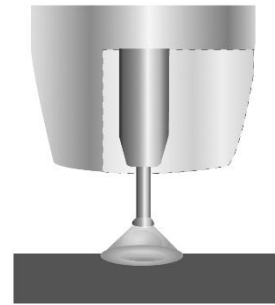

Fig. 17
5. An arc is created at the separation of the droplet and the heat and force of the arc flattens out the droplet into the weld pool. The heat of the arc melts the end of the wire slightly as it feeds towards the base metal (Fig. 17).